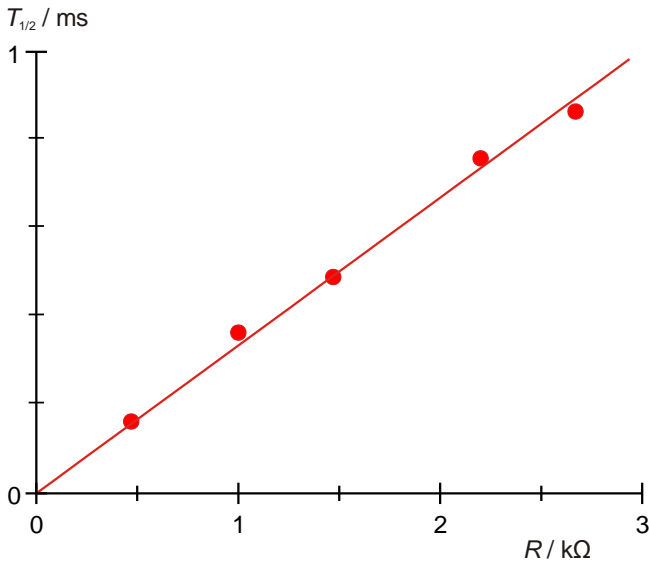

Fig. 5: Half-life $T_{1/2}$ as a function of resistance R .
- Plot the “half-way” values $T_{1/2}$ from Table 3 against the resistance R on a graph and join up the points with a straight line through the origin (Fig. 5).
- To verify equation (3), determine the capacitance C from the gradient of the line mc .
- Plot the “half-way times $T_{1/2}$ from Table 5 against the products $R \cdot C$ on a graph and join the points with a straight line through the origin (Fig. 5).
- To verify equation (3), determine the resistance use the gradient of the line m to determine that the coefficient of proportionality is $\ln 2$.